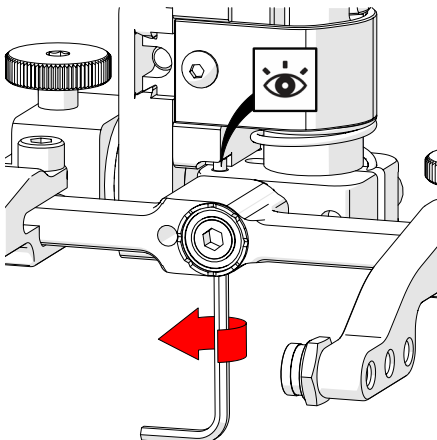

Fig. 63 - Raise opposite 90° stop post
8. Raise the stop post on the opposite side until the side of the post contacts the 90° stop point on the probe holder's base (Fig. 63).